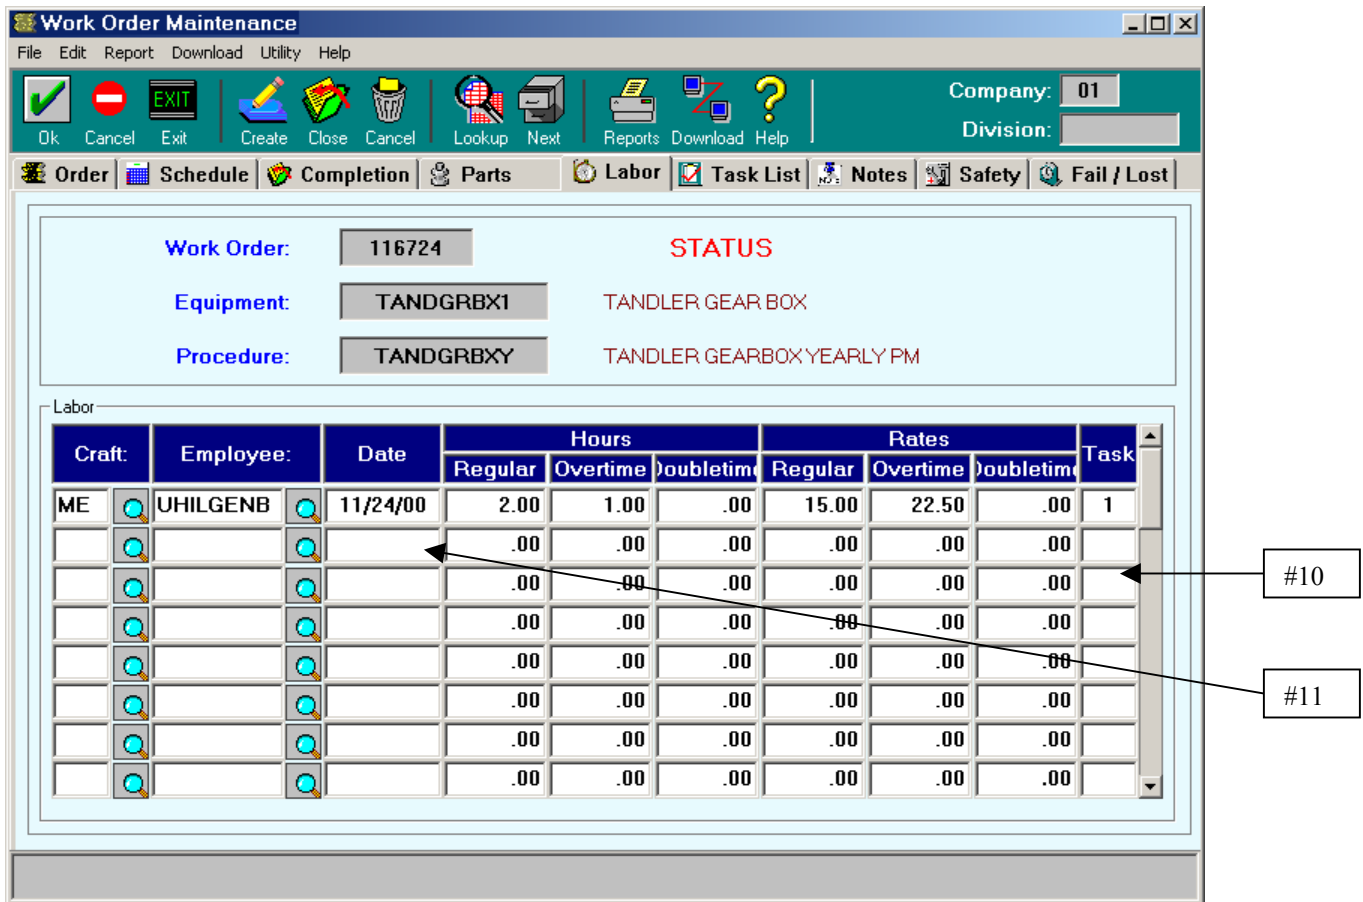

FIGURE 5
10. Labor reporting maintains the same familiar interface-style for version 6 (Figure 5) with the added feature of being able to tie specific labor hours in to specific work order tasks.